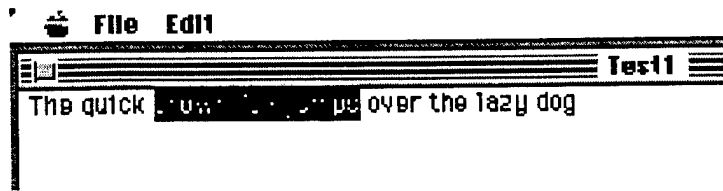

Figure 2.9: Text inverted by pressing the mouse and dragging along text
2. Using the mouse, select a portion of the text. This operation is performed by placing the mouse pointer in the vicinity of the text to be selected, then using the click-and-drag technique described earlier. When a portion of text has been selected, the text will appear inverted (or highlighted) as shown in Figure 2.9.